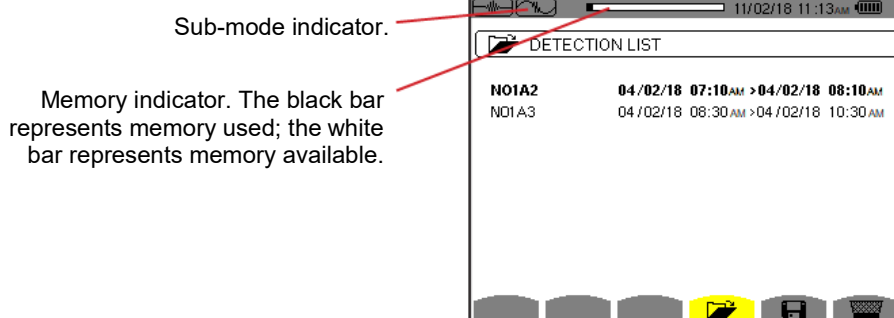

Figure 5-3
- If transients have been recorded, the Detection List is displayed (Figure 5-3).
When the list of searches for transients is displayed (see Figure 5-3), select the search to be erased. Move the cursor to it using the ▲ and ▼ buttons. The selected search is bolded. Then press the button. Press ↵ to validate or ↶ to cancel.